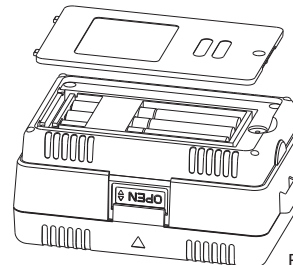

Figure 4
7.1.1 Replacing the Battery (See Figure 4)